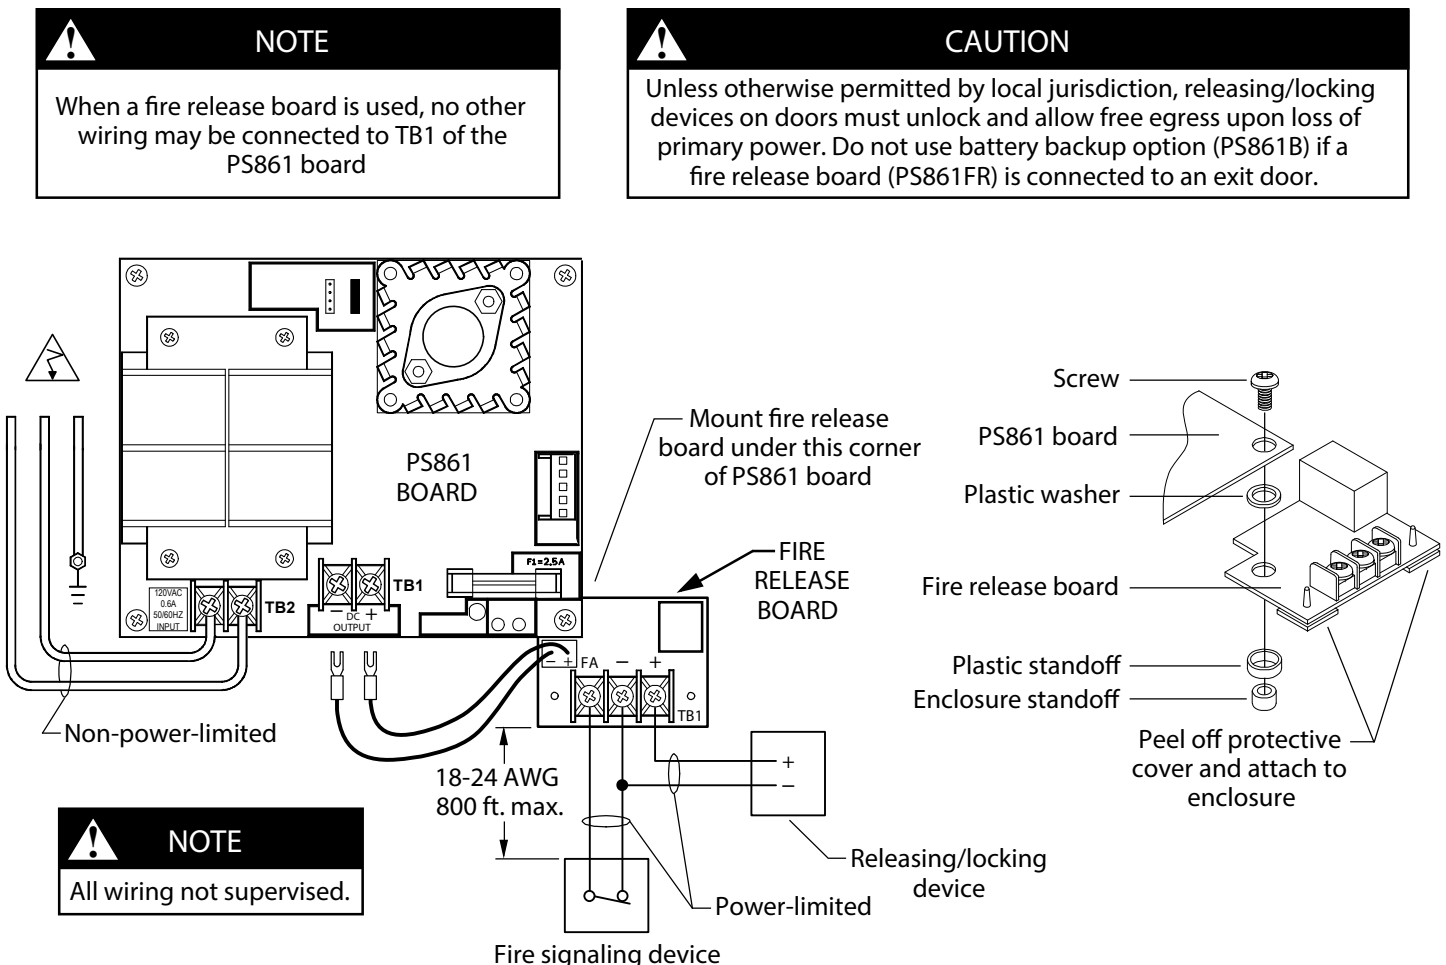

Figure 3. Installing and Wiring the Fire Release Board
- 7.2. Install the fire release board as shown in Figure 3.